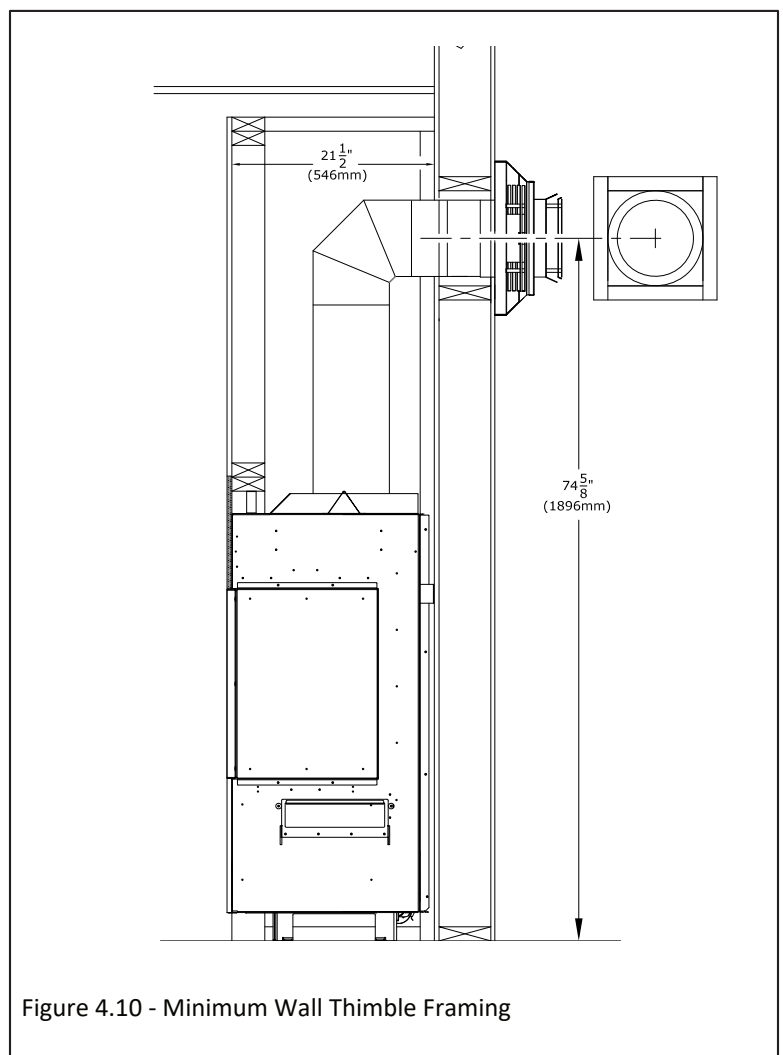

Figure 4.10 - Minimum Wall Thimble Framing
- Follow Figure 4.10 below for minimum rough-in dimensions.
1. Measure from floor level of the fireplace to the center of where the vent pipe will penetrate the wall. The dimensions in Figure 4.10 are used with a Simpson DuraVent pipe.